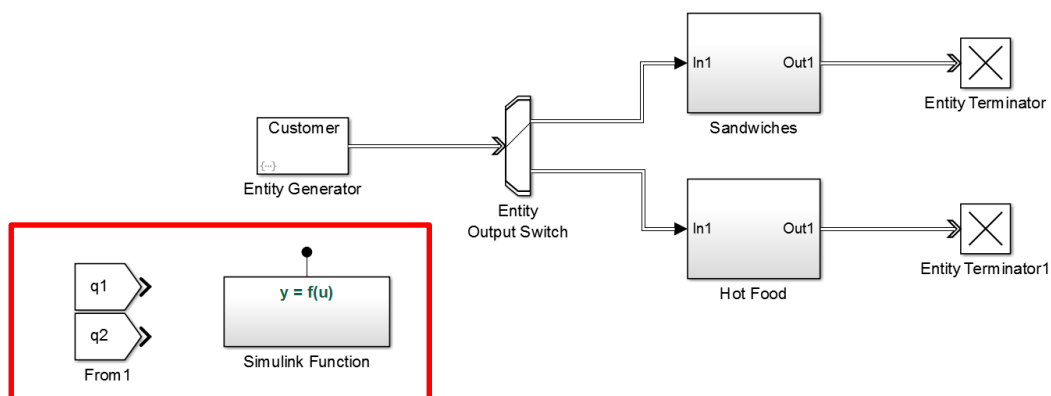

Figure 22: Add the From blocks and Simulink Function block
2. Now add the two From blocks and the Simulink Function block to the top level of the model as shown in Figure 22 (use the blue arrow buttons to navigate to the top level). The From blocks should be configured to use “Goto tag” q1 and q2. The From blocks retrieve the signals from the Goto blocks without having to physically connect them.